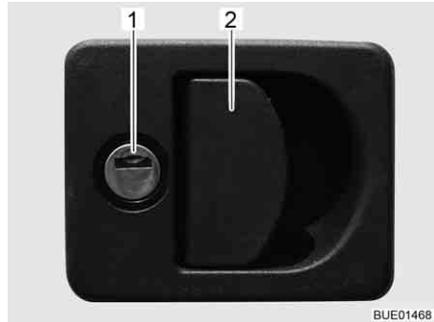

Fig. 37 Flap lock with recessed handle
- Insert key into locking cylinder (Fig. 37,1) and turn a quarter turn. The flap lock is unlatched.
- Pull on the lock handle (Fig. 37,2). The external flap is open.